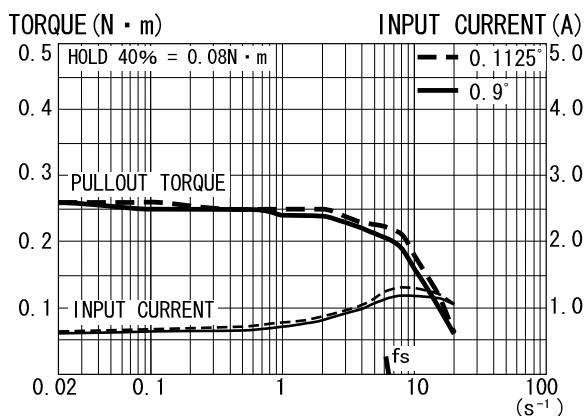
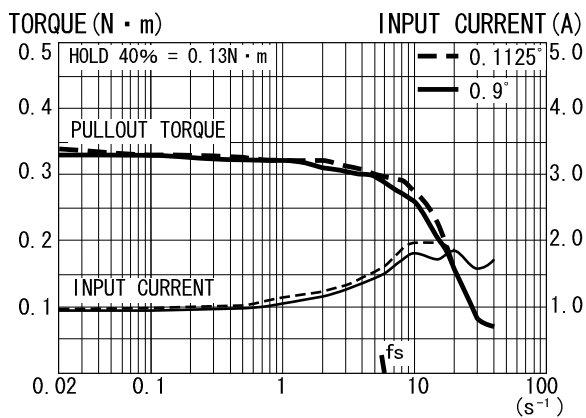

Fig. 13
Fig. 14
| PK264-02A (B) PK266-02A (B) PK268-02A (B) | 1.8 | 2.0 | F | Fig. 13 Fig. 14 Fig. 15 |